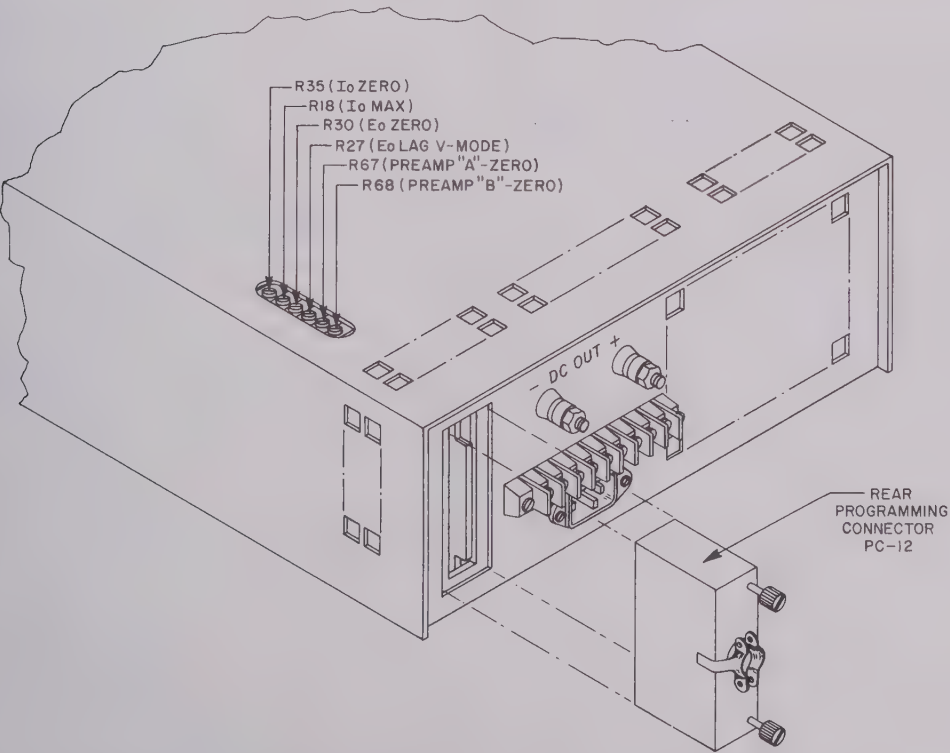

FIG. 2-1 LOCATION OF INTERNAL CONTROLS, ATE 3/4 RACK GROUP.
- c) INTERNAL CONTROLS: Refer to FIG. 2-1 and Table 2-1.